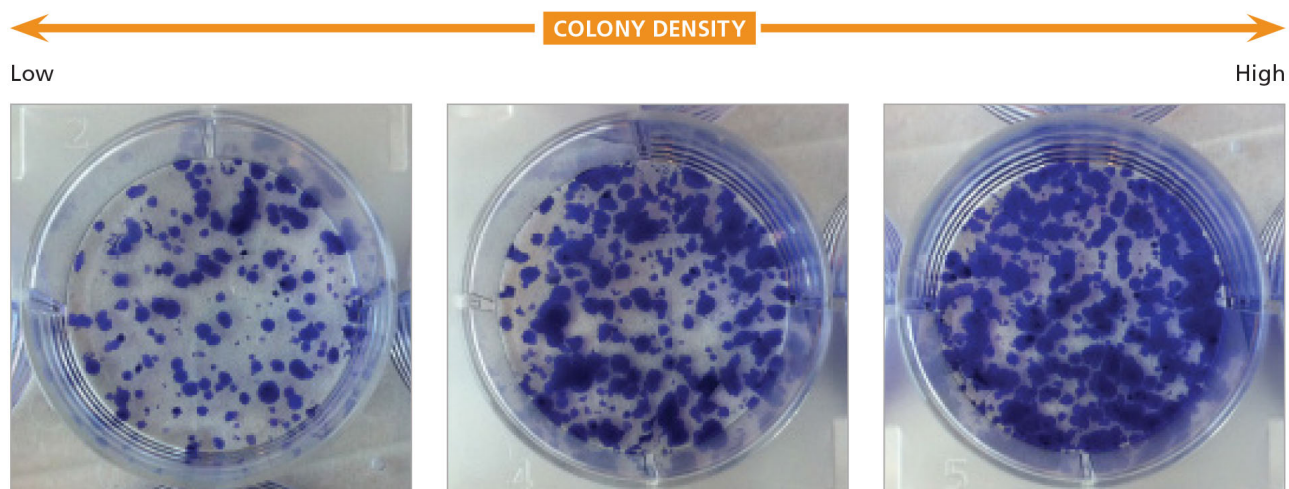

Figure 6. Example Colony Densities for Human ES or iPS Cultures
**For representative images see Figure 6.
The number of cell aggregates plated at the time of passaging is correlated to the colony density observed at the next time of passaging. By altering the split ratios at the time of plating you can increase or decrease the colony density as desired. For example, a lower split ratio at the time of plating (i.e. plating more cell aggregates) will result in a higher colony density at the next passaging time. Typical split ratios are 1 in 10 to 1 in 50; however, this can vary depending on the passaging schedule, the cell line used, and the individual operator. Refer to Figure 6 for a recommended range of colony densities that should be observed at the time of passage. Some cell lines may show increased spontaneous differentiation when cultured at higher densities; if increased differentiation is observed, the colony density may be decreased in the next passage by plating fewer cell aggregates. Counting cell aggregates is an alternate way to determine and adjust plating densities (see Appendix 1).